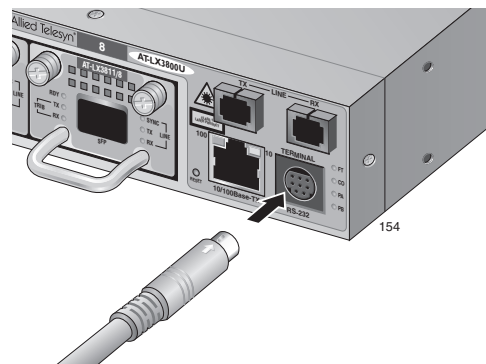

Figure 1. Connecting the Management Cable to the RS-232 Port
1. Connect the DIN-8 end of the management cable included with the AT-LX3800U chassis to the RS-232 terminal port on the front of the chassis, as shown in Figure 1.